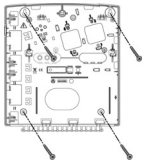

Figure 5-2: Mounting screw template
3. Hold the mounting bracket against the wall as a template and mark the locations for the mounting holes, as per Figure 5-2 (4 mounting holes and an additional optional hole for securing the tamper protection bracket item).
1. Mount the 2-Way Wireless I/O Expander Module back panel to the wall using affixing screws, see Figure 5-2.